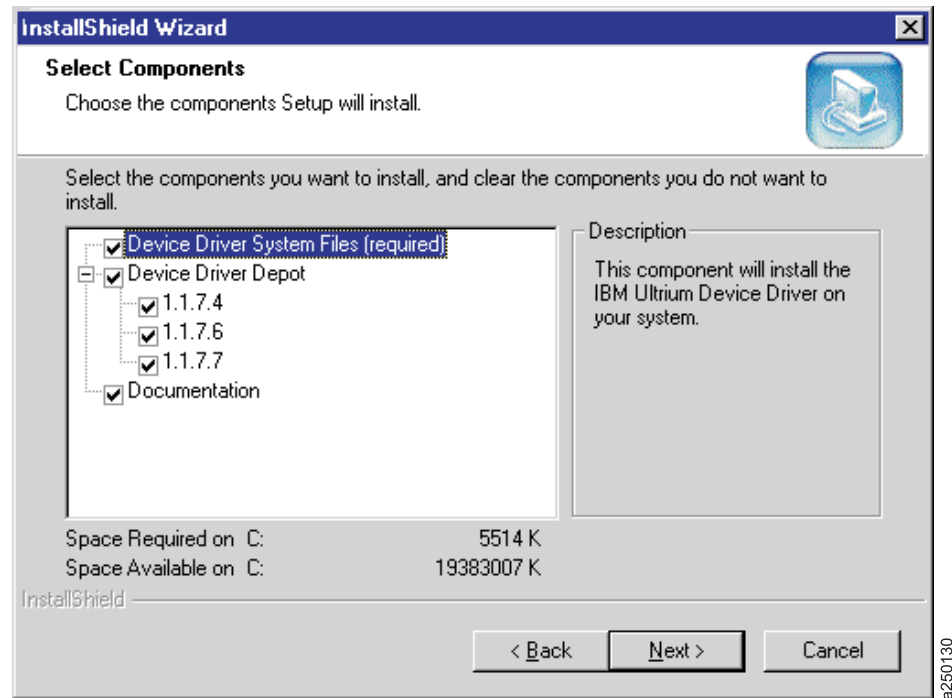

Figure 12. Select Components Menu
- c. If you select **custom** installation, the program will allow you to select the components to install (see Figure 12).